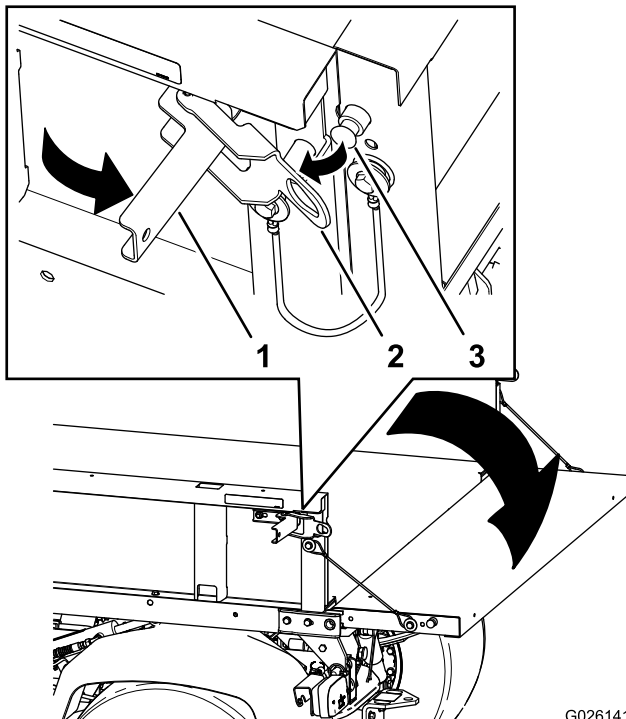

Figure 14
2. Open the latches on the left and right side of the cargo box and lower the tailgate (Figure 14).